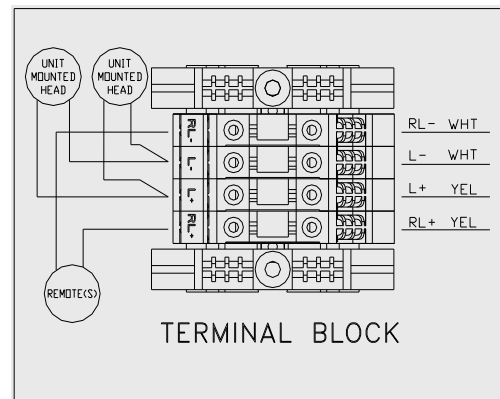

Figure 2
7. A dual load terminal block is provided for lamp hook-up. Ensure total wattage of heads, both unit mounted and remote (if applicable), does not exceed unit rating. Factory mounted lamps are wired to the terminal block at points L+ and L-. All remote loads should be wired to the terminal block at RL+ and RL- (See Figure 2). Use wire gauge that limits voltage drop to an acceptable level (See page 6)